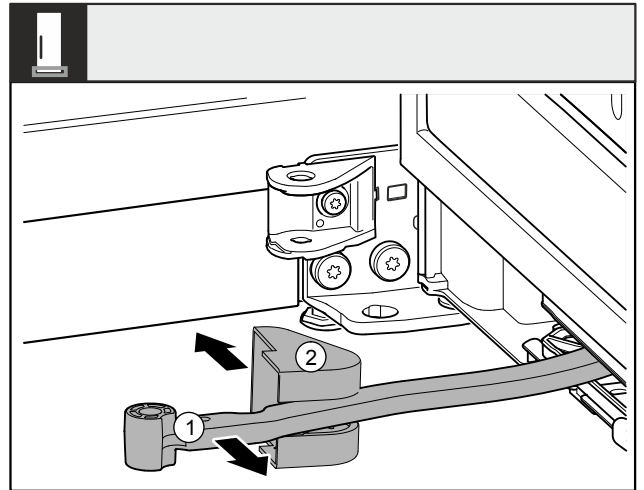

Fig. 10
- Turn the joint Fig. 10 (1) towards the door.
- Remove the swap bearing block cover Fig. 10 (2).